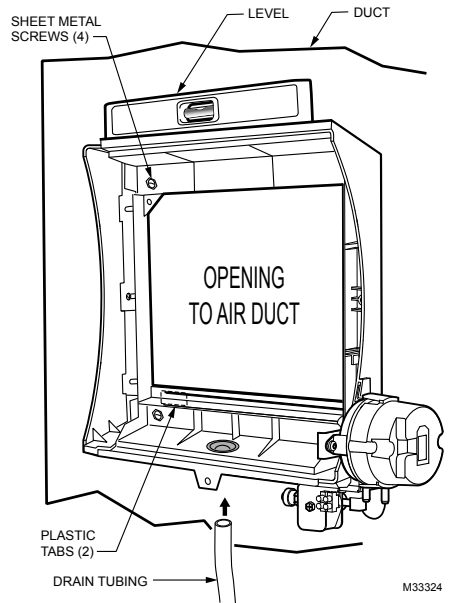

Fig. 5. Installing humidifier on duct.
7. Make sure the humidifier housing is level, then position it in the opening so the plastic tabs are in place on the *lower sheet metal edge* of the opening. Use pliers, as necessary, to flatten cut edges. See Fig. 5.